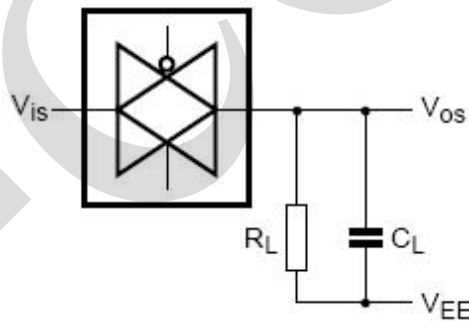

Figure 10. Square wave distortion degree of cut-off frequency and conduction frequency test pattern
- [3] $R_L=1k\Omega$; $C_L=5pF$, channel off, $20\log V_{os}/V_{is}=-50dB$, see Figure 10.
- [4] $R_L=1k\Omega$; $C_L=5pF$, channel on, $20\log V_{os}/V_{is}=-3dB$, see Figure 10.